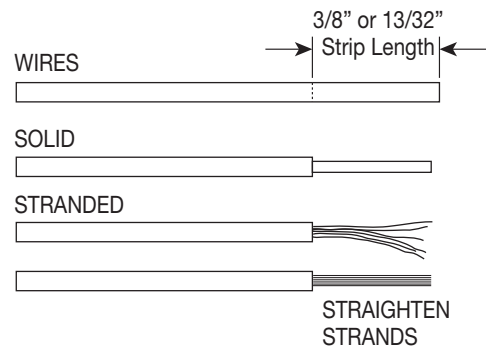

Figure 1
3. Strip wire insulation to 3/8" minimum, 13/32" for 12 AWG (Figure 1).
4. If stranded wire, straighten and uniformly group (Figure 1).